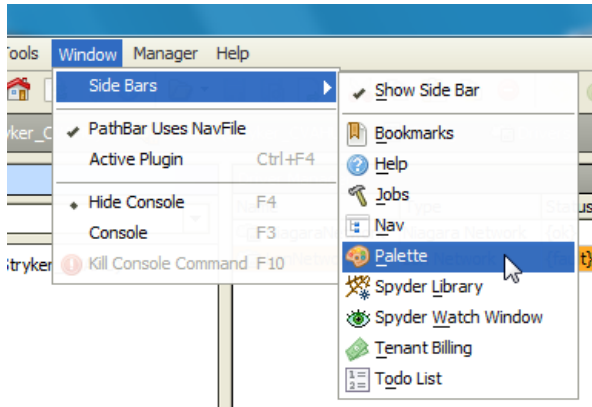

Figure 24: Adding Palette
- Click on ‘Window’ option in Menu bar; navigate to ‘Palette’ through sub menu of ‘Side Bars’. (Refer to Figure 24).